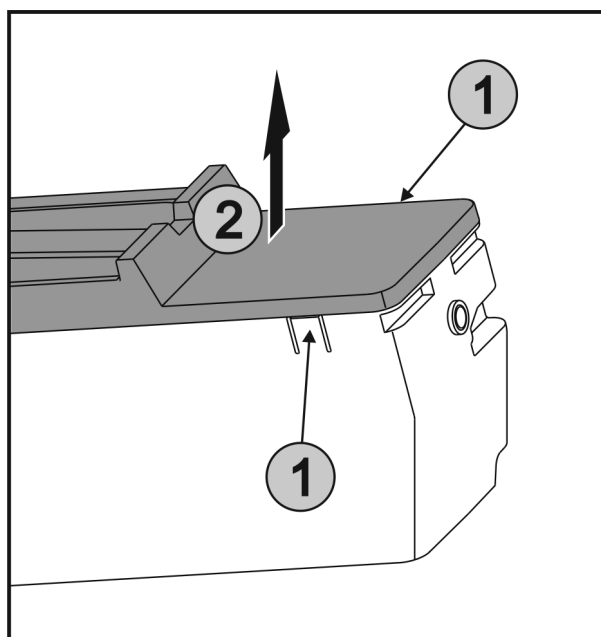

Fig. 47
- ▶ Press the lugs Fig. 47 (1) on both sides of the EasyTwist-Ice simultaneously and take off the lid Fig. 47 (2) to the top.